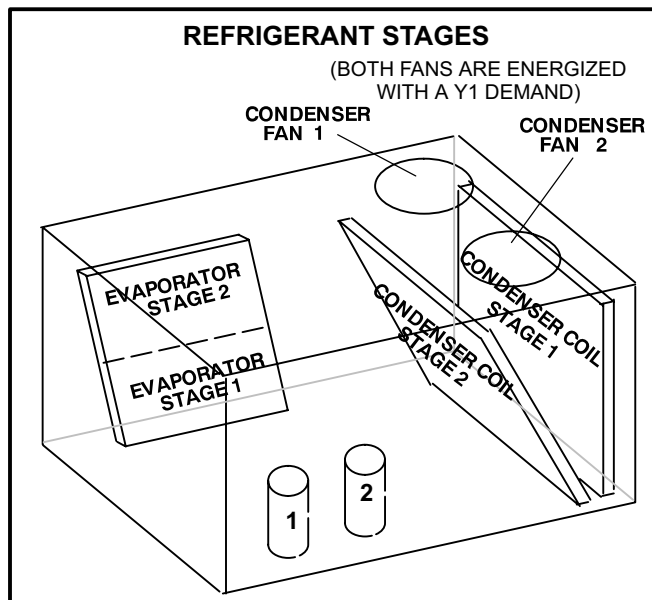

FIGURE 12
- 3- Units contain two refrigerant circuits or stages. See figure 12.